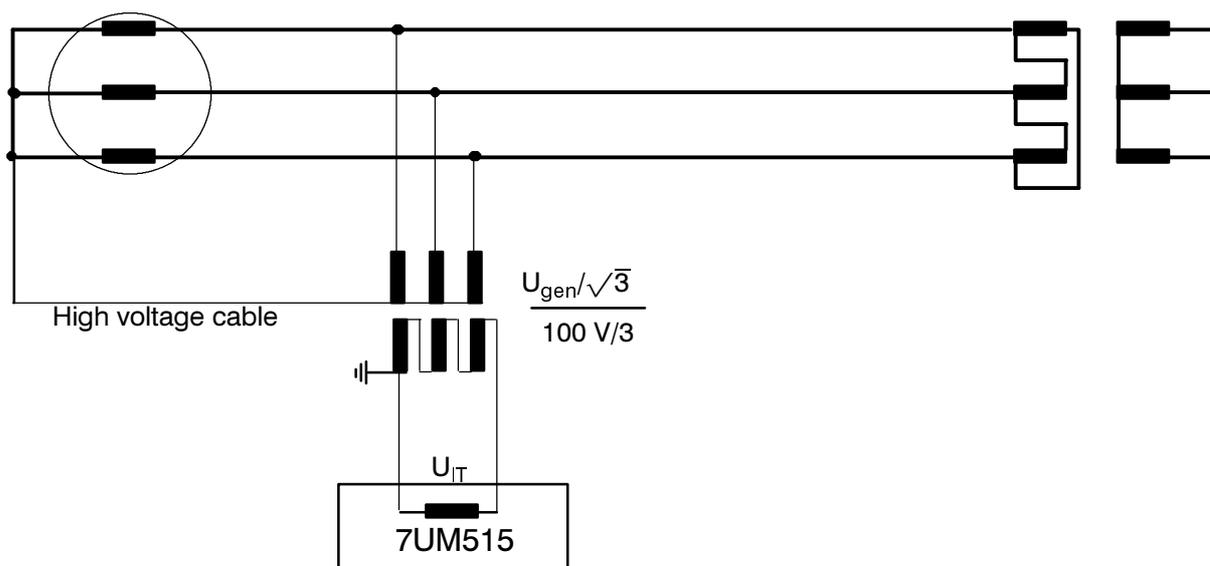

Figure 5.6 Connections for interturn fault protection
Three two-phase-insulated voltage transformers must be used for the **interturn protection**. The primary windings of the v.t.s are star connected and the secondary windings are open-delta connected. The voltage transformer primary star point is connected to the generator star point by a high voltage cable. The v.t. star point **must not** be earthed since this would earth the machine star point. A connection example is shown in Figure 5.6.
- Are the connections of the displacement voltage for interturn fault protection U_{IT} correct (refer to Figure 5.6)?